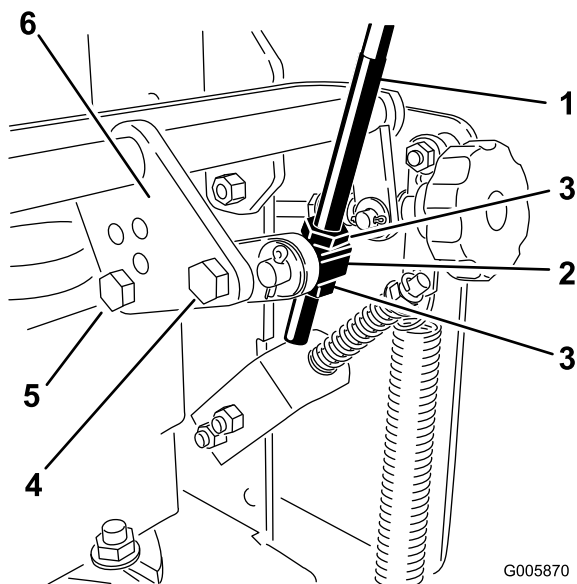

Figure 17
2. Loosen the nuts holding the swivel connected to the speed control crank (Figure 17).
3. Remove the front bolt from speed control crank (Figure 17).
4. Loosen the back bolt holding the speed control rod to the speed control crank (Figure 17).
- Adjust the swivel on the speed control rod and tighten the nuts against the swivel (Figure 17).
- Adjust the control rod length by rotating the control rod in the rod fitting (Figure 17).